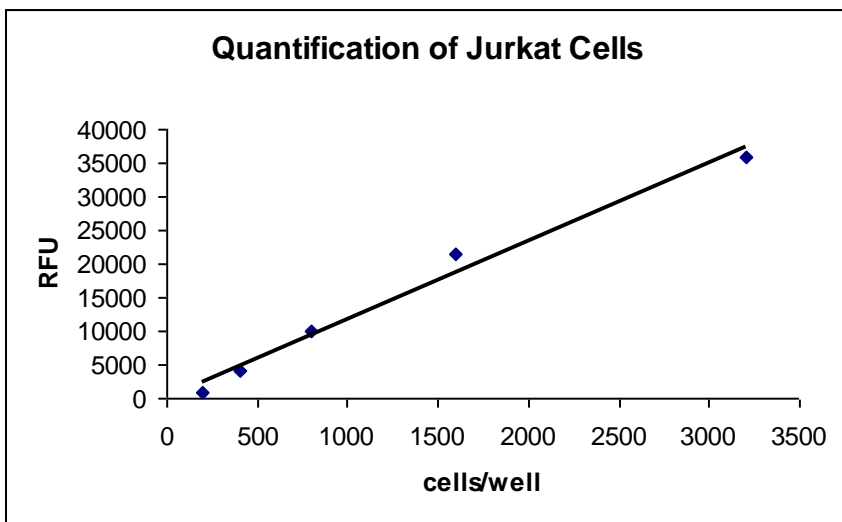

Figure 1. Calcein AM Quantification of Jurkat Cells
8. Record fluorescence using a 490 nm excitation filter and a 520 nm emission filter. The fluorescence intensity is proportional to the number of viable cells (see Figure 1, page 4).
4. Add 50 μ l per well of freshly prepared 2X Calcein AM Working Solution (see Section V, item 2 for preparation).
6. Record fluorescence using 490 nm excitation filter and a 520 nm emission filter. The fluorescence intensity is proportional to the number of viable cells (see Figure 1 below).